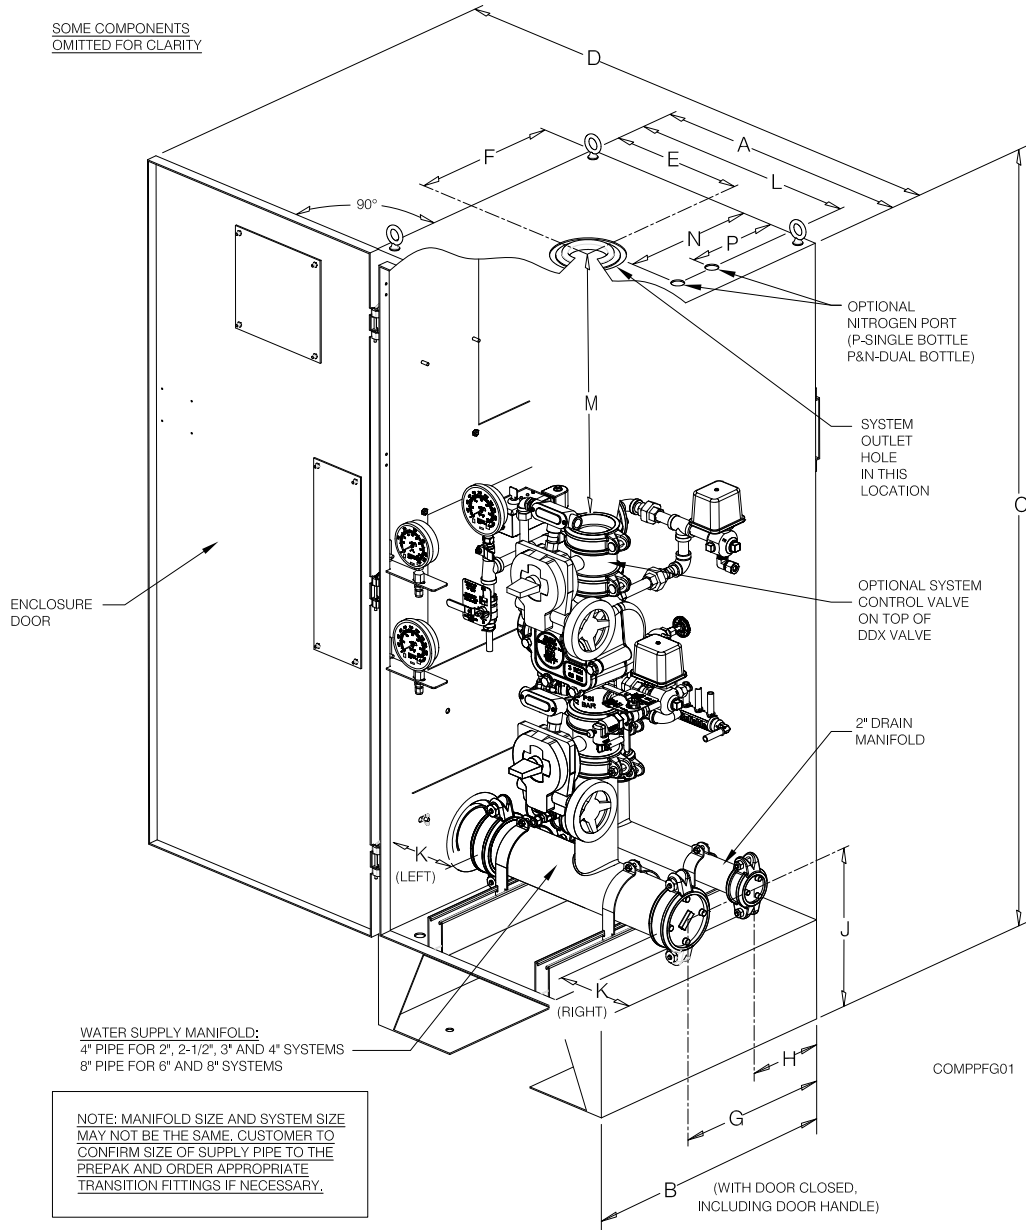

Fig. 1
The Reliable Model DDX-LP PrePaK system (Sizes 2" (50mm), 2½" (65 mm), 3" (80 mm), 4" (100 mm), 6" (150mm) and 8" (200mm)) is a completely self-contained, supervised dry pipe system that can be readily installed within a floor space of less than 7 square feet (0.65 square meters). Refer to Fig. 1 for cabinet dimensions. Installation of the DDX-LP PrePaK system requires just three piping connections: the water supply, the sprinkler system and the drain. Reference locations of these piping connections are shown in Fig. 1. One electrical supply connection is required. **Note:** The Model DDX-LP PrePaK system is available with an optional 115V VAC (60Hz) air compressor.
4. Refer to Figure 1 for dimensions.